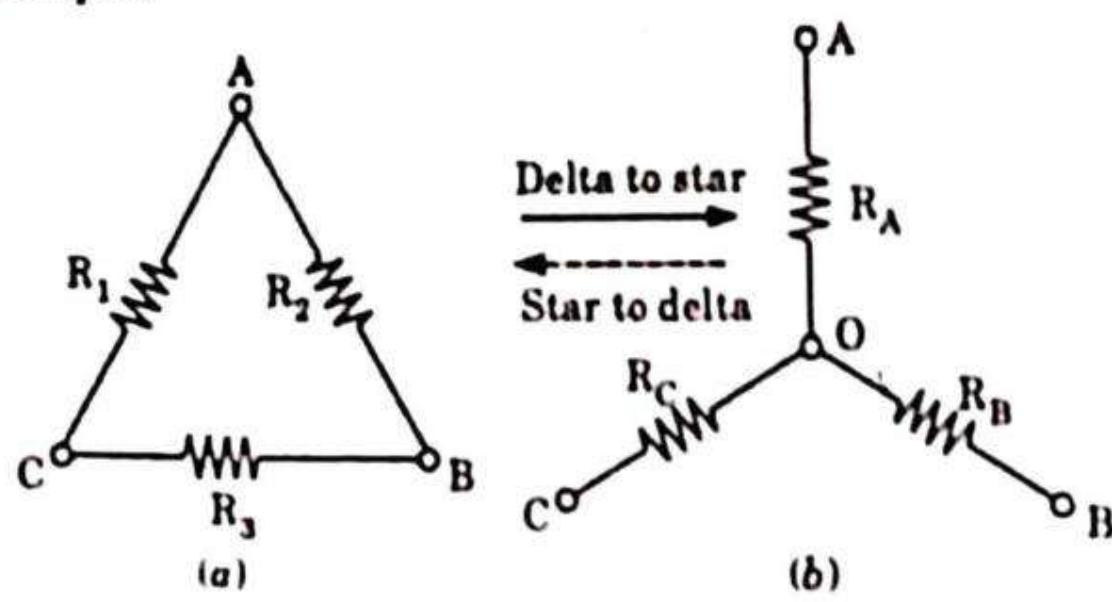

Fig. 1.13.1. Delta to star transformation.
1. Three resistances connected as shown in Fig. 1.13.1(a), are said to be delta connected.
2. Three resistances connected together at a common point O , as shown in Fig. 1.13.1(b) are said to be star (γ) connected.